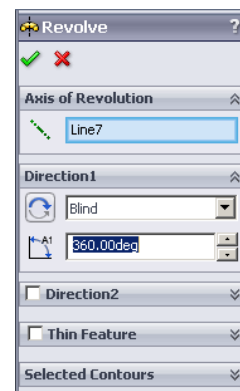
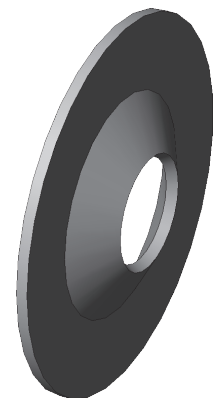

Fig. 9
Fig. 10
Step 3. Click OK  in the Revolve Property Manager, **Fig. 9** and **Fig. 10**.
Step 4. Click **Zoom to Fit**  (F) on the View toolbar.